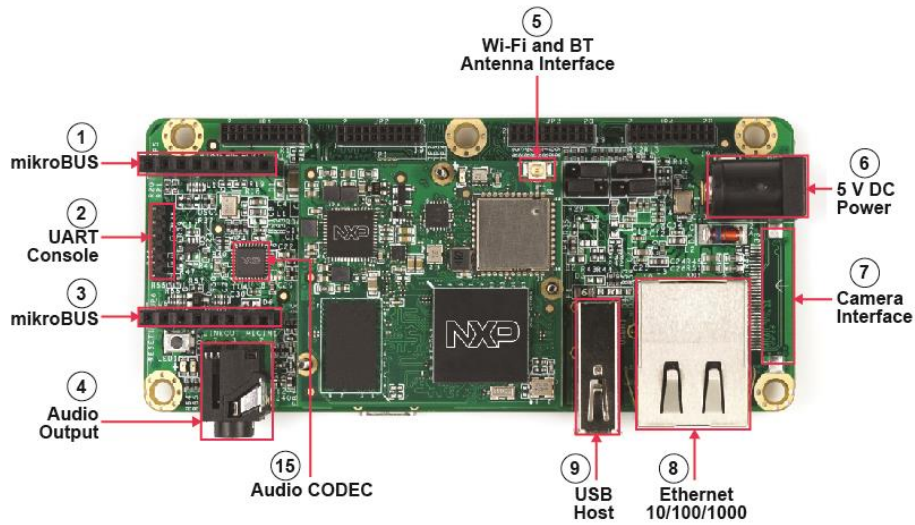

Figure 2. Top view of the PICO-i.MX6UL board
The key interfaces of the board are shown in Figure 2 and 3:
- 5V power input jack (number 6 in Figure 2).
- Microphone+headphone jack (number 4 in Figure 2)
- WiFi+Bluetooth antenna connector (number 5 in Figure 2)
- 6-pin header for UART console interface (number 2 in Figure 2). This interface is used for serial console interface.
3. Connect the WiFi antenna to connector (number 5 in Figure 2)